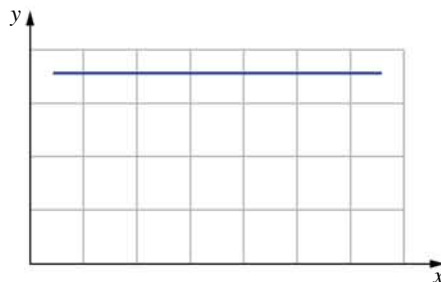

FIGURE 21.3.4 When two variables show no relationship, there is no trend in the graph.
- When there is no relationship between two variables, one variable will not change even if the other changes. A graph in which there is no relationship can be seen in Figure 21.3.4.